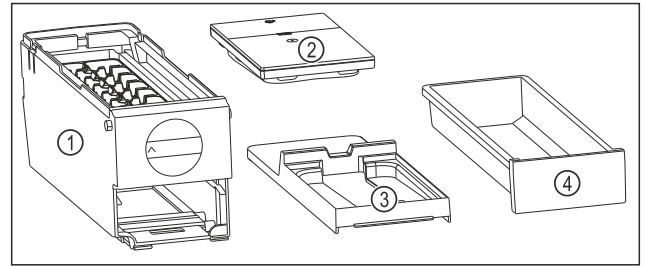

Fig. 76 Components of the EasyTwist-Ice
- ▷ EasyTwist-Ice is dismantled into four parts. (see Fig. 76)
- ▶ Only dismantle the EasyTwist-Ice into the components shown. (see Fig. 76)
- ▶ Clean the EasyTwist-Ice body Fig. 76 (1) as a whole.